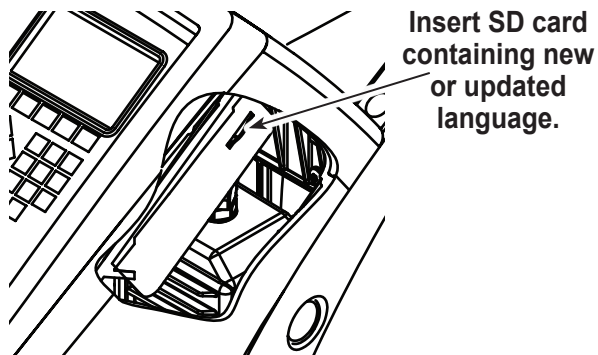

Figure 5
3. Insert the SD card containing the language data. See Figure 5.